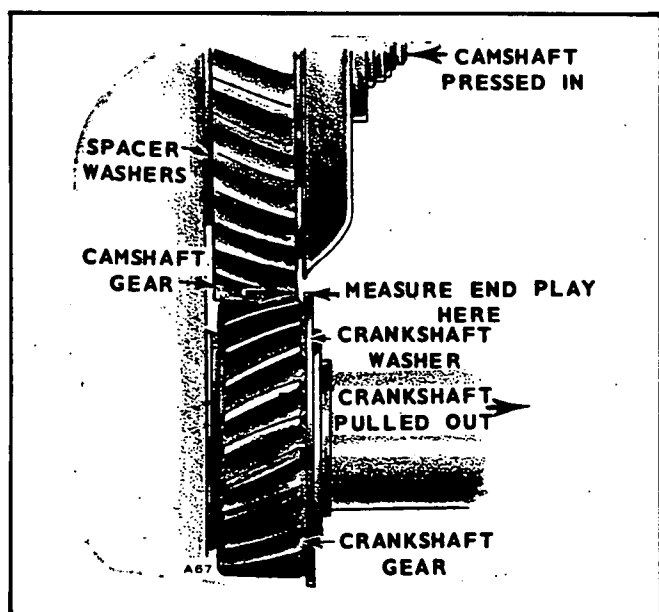

FIGURE 54. CAMSHAFT ENDPLAY
3. Slide the thrust washer onto the shaft. Measure camshaft end play; it should be 0.007 inch to 0.039 inch. See Figure 54.